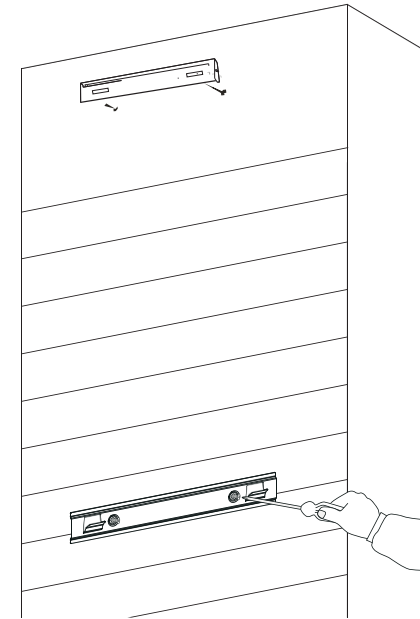

Fig 7
- Install the flue cover mounting and wall brackets with screws to the wall as marked (Fig. 7). Please mounted recirculating T pieces together with flue cover bracket if recirculating mode is used. (Fig.9)